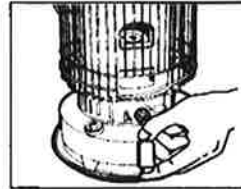

Fig. 15
- Pull on the ignition lever(Fig. 15) to bring the glowing igniter into contact with the wick. This will cause ignition to occur.